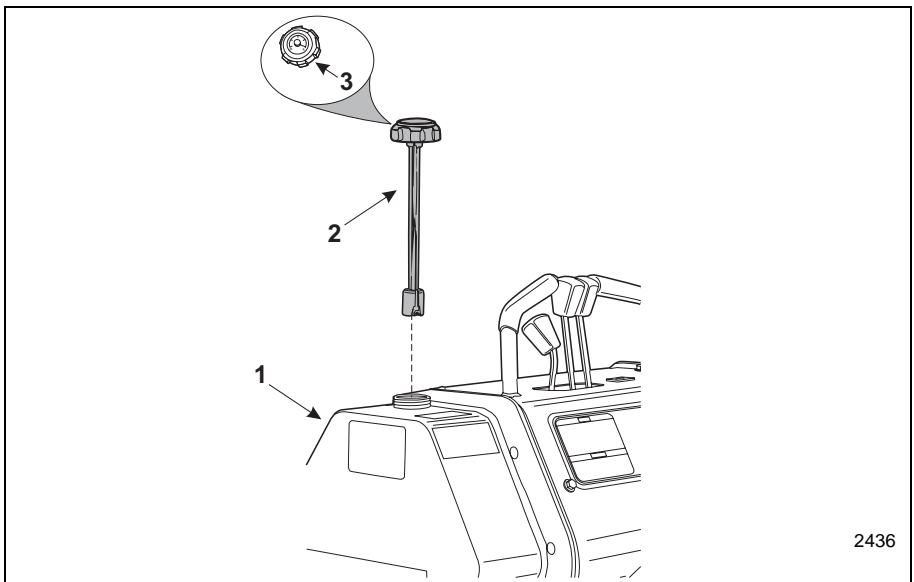

Figure 4-2 Fuel Level Check
3. The Boxer has one saddle fuel tank (Item 1, **Figure 4-2**). The tank has a fuel gauge (Item 3, **Figure 4-2**) located in the filler cap (Item 2, **Figure 4-2**). Remove cap and visually inspect fuel level to make sure that the indicator is showing the proper fuel level. Make sure that the tank has been filled on a daily basis. Carefully add fuel.